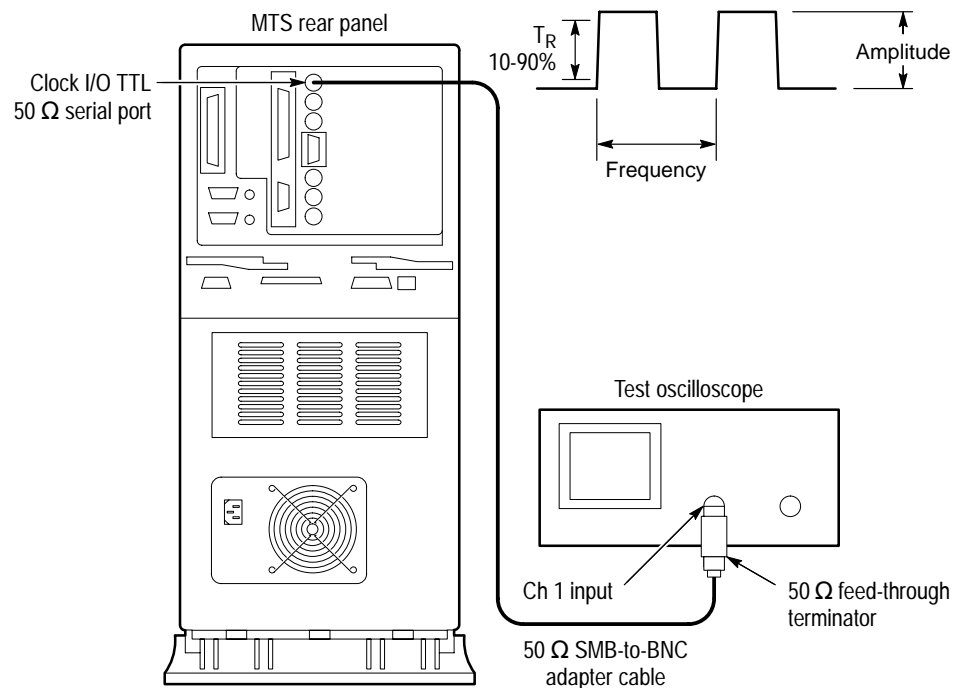

Figure 14: Setup for measuring the TTL 50 ohm clock I/O port
15. Connect a 50 Ω SMB-to-BNC adapter cable from the TTL 50 Ω Clock I/O Port, through a 50 Ω feed-through terminator, to the oscilloscope input. See Figure 14.
- 18. Check for a frequency of approximately 1 MHz, amplitude of approximately 3.0 volts and a rise time of approximately 2.0 ns. See Figure 14.
23. Move the Test System output cable to the TTL 50 Ω Clock I/O Port. See Figure 14.
25. Check for an amplitude of approximately 3.0 volts, frequency of 45 MHz and a rise time of approximately 2.0 ns. See Figure 14.